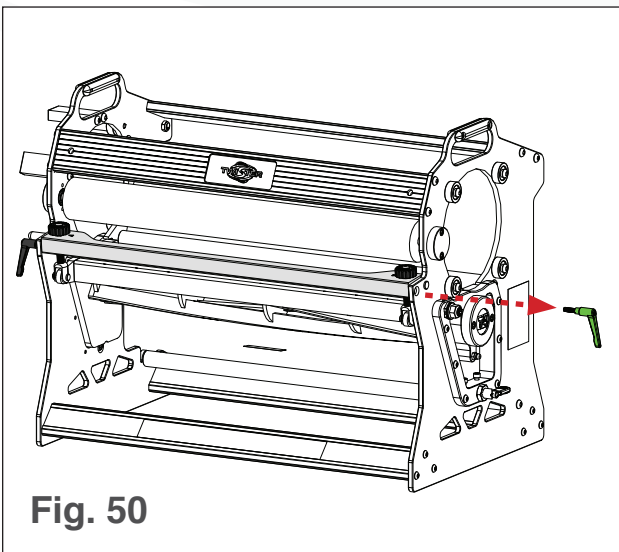

Fig. 50
2. Remove one of the adjustment bar lock knobs (see Fig. 50).